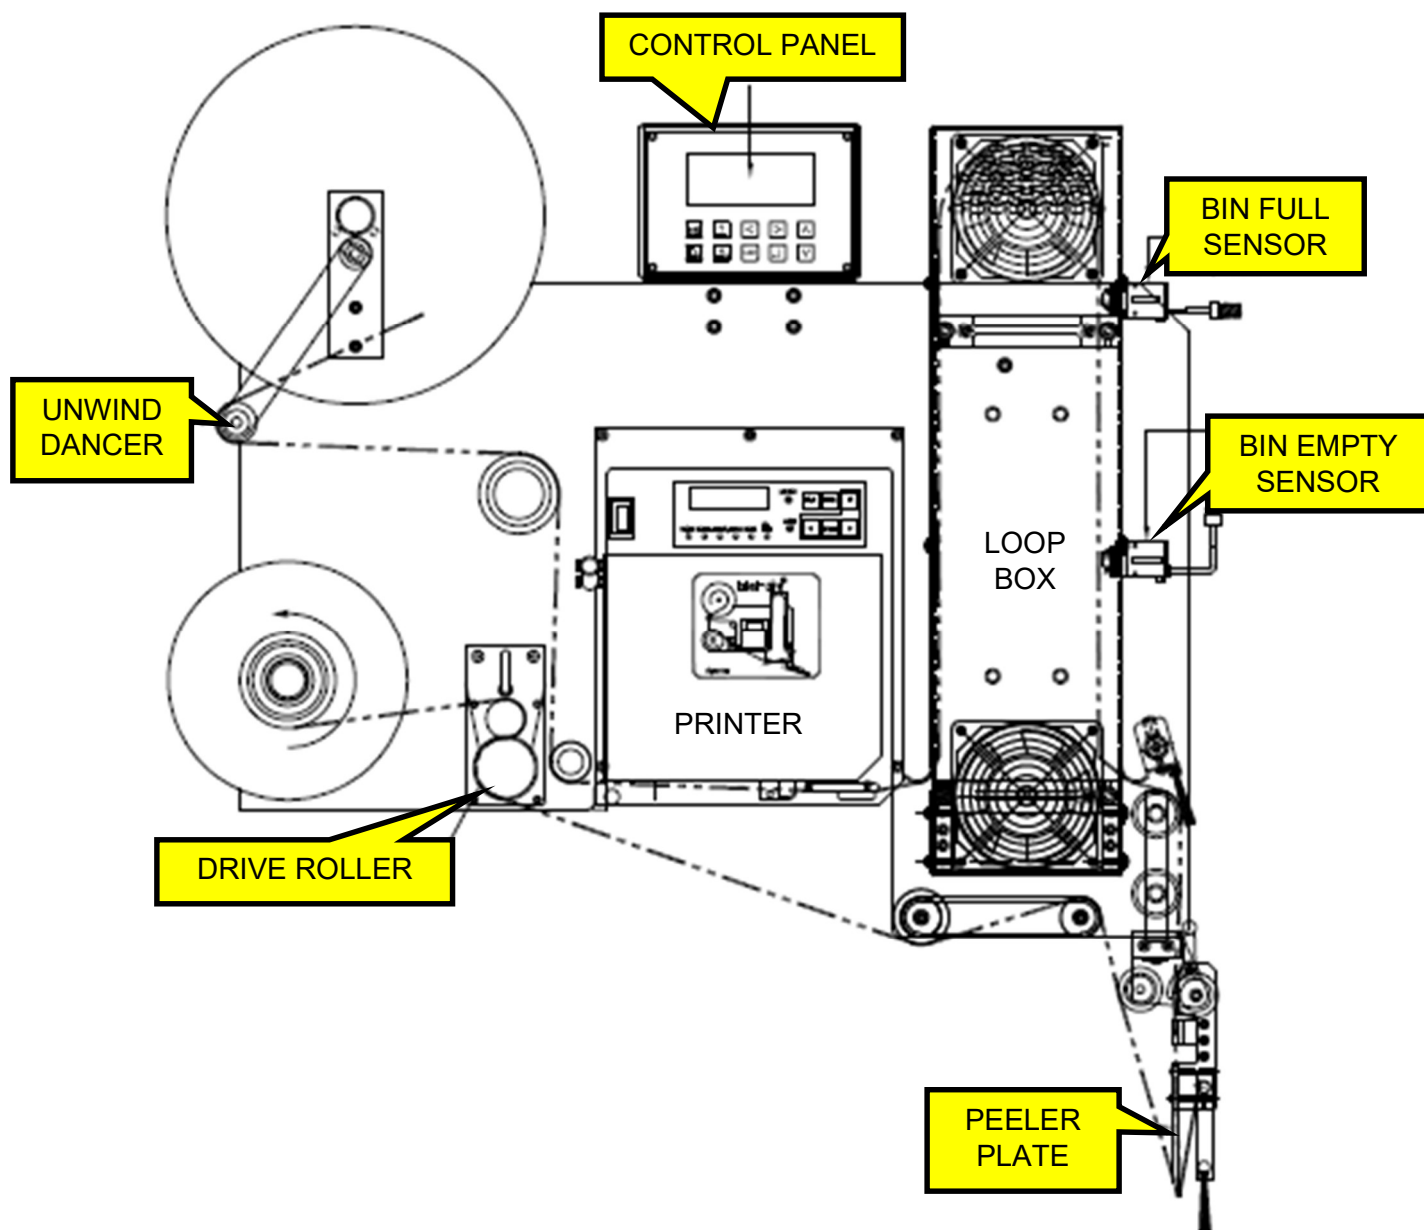
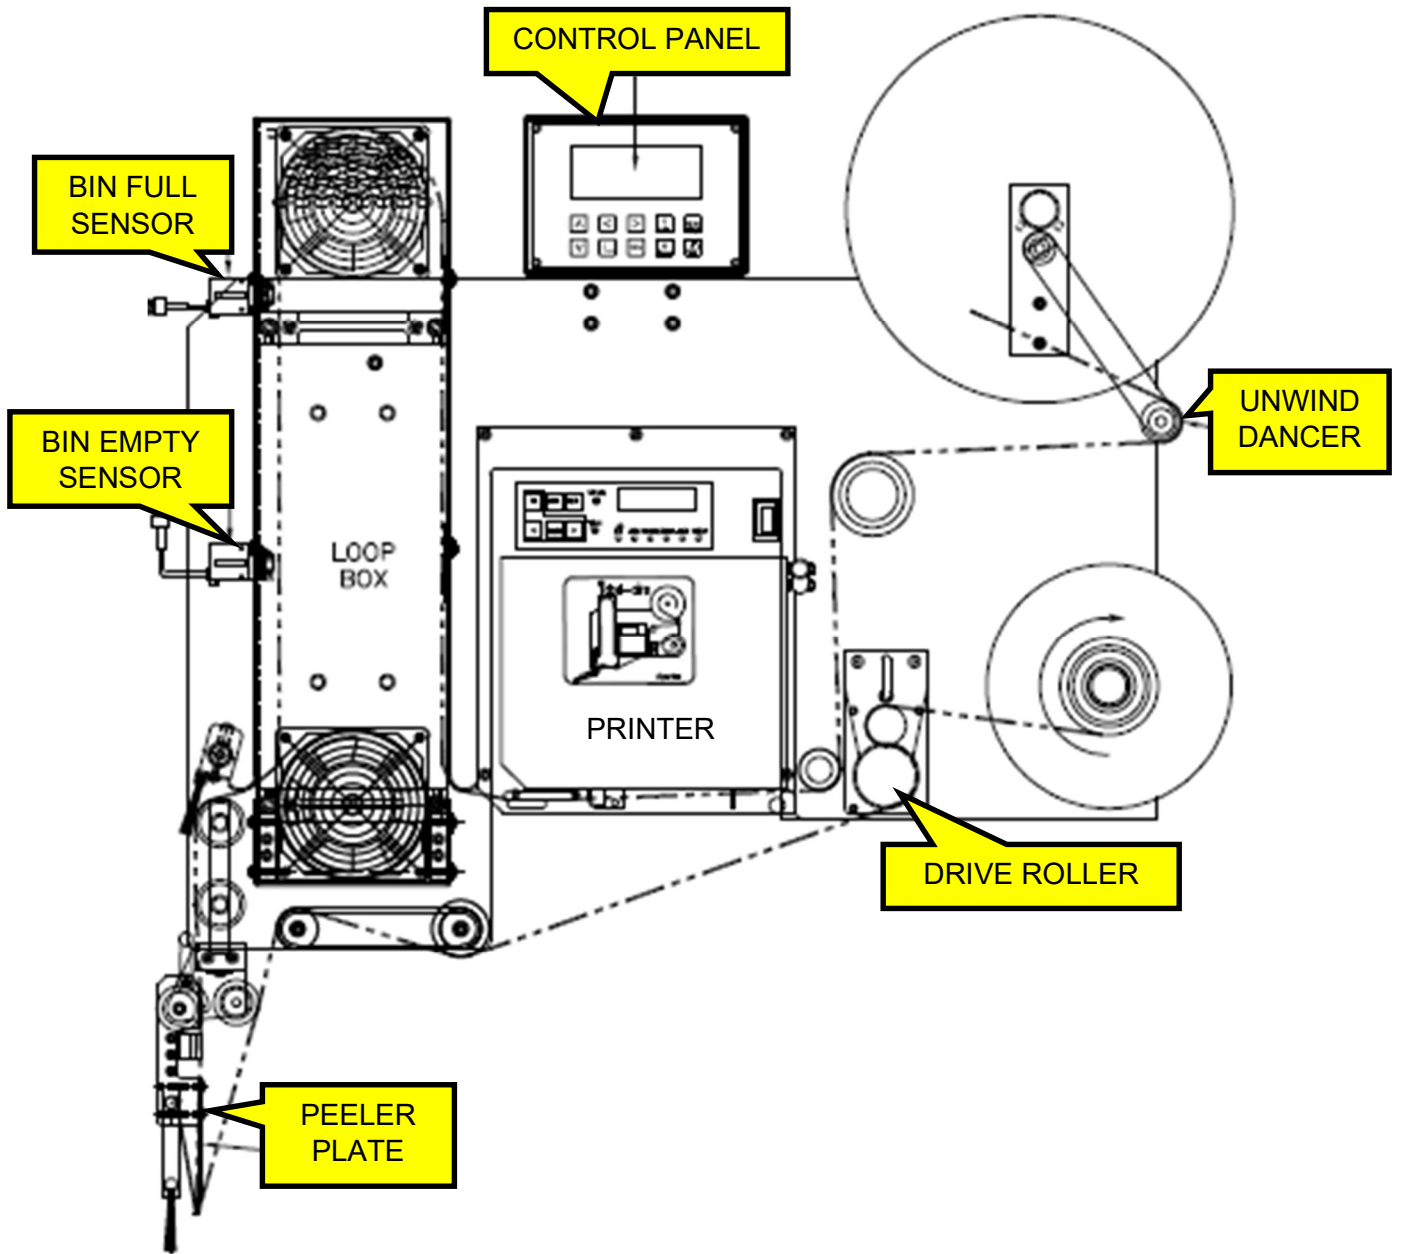

Figure 11 3138N Applicator (Right Hand)
Figure 12 3138N Applicator (Left Hand)
10. Thread the label liner into the vacuum box and through the machine as shown in Figure 11 or Figure 12. Make sure to thread the label liner through the label sensor.